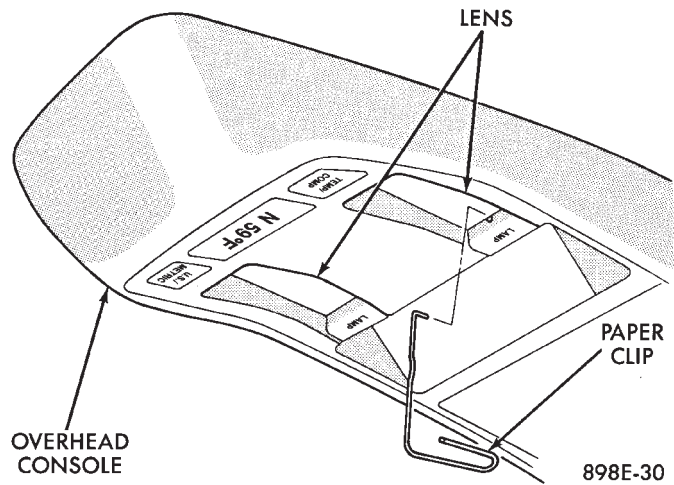

Fig. 1 Overhead Console Lens Removal
(1) Remove lens by inserting a large paper clip or wire, with a hook on the end, into the hole in the lens and pull downward (Fig. 1).